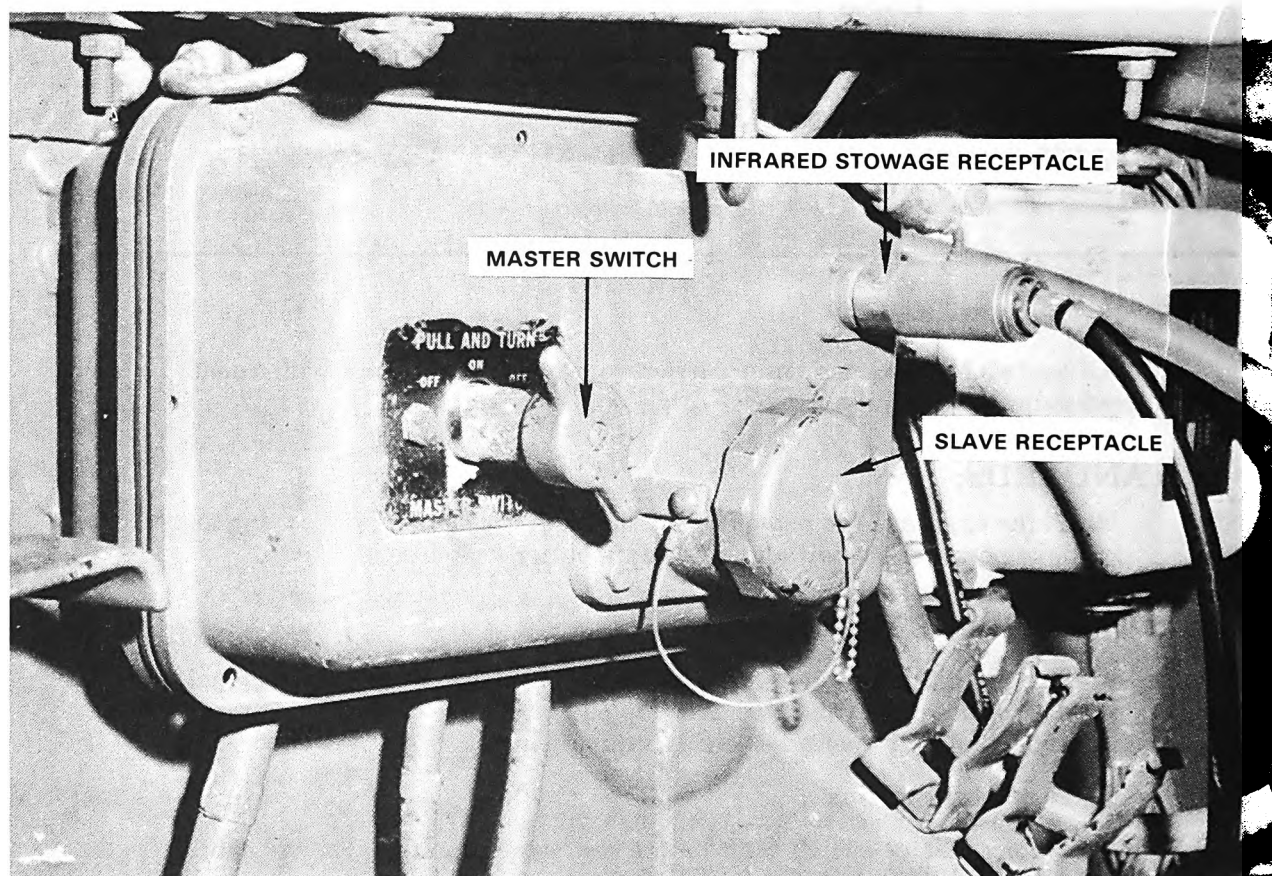

Figure 1.
- a. Turn master switch OFF before connecting auxiliary power cable (figure 1).